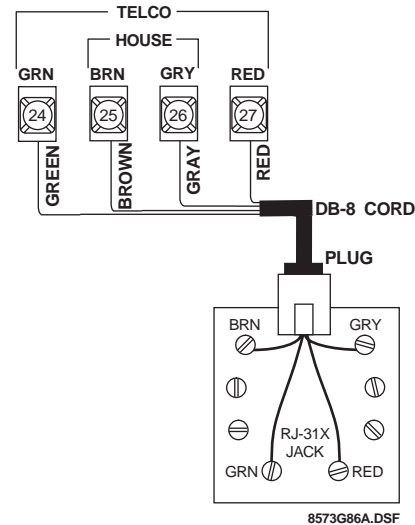

Figure 30. Connecting the DB-8 Cord to the Panel and RJ-31X Jack
1. Connect the green, brown, gray, and red flying leads from the DB-8 cord to panel terminals 24, 25, 26, and 27 (see Figure 30).
2. Insert the DB-8 cord’s plug into the RJ-31X (see Figure 30).